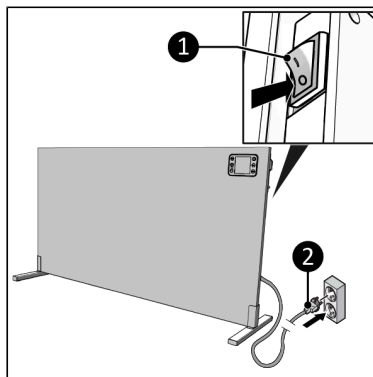

Figure 33.
2. Make sure the main switch is in the OFF position (Figure 33, pos. 1).
3. Insert the power plug (Figure 33, pos. 2) into an earthed wall socket that is easily accessible. Use an earthed wall socket with a minimum power of 1000 Watt.